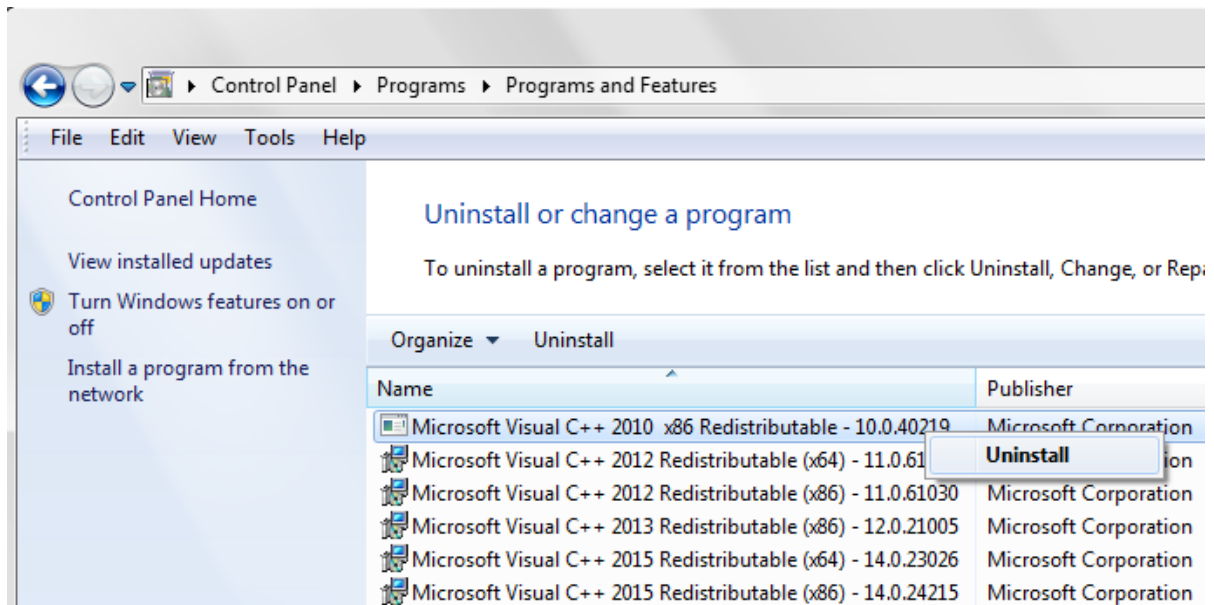

Figure III.1.6: Select Microsoft Visual C++ 2010 x86 Redistributables - 10.0.40219.
- If present, right-click on Microsoft Visual C++ 2010 x86 Redistributables - 10.0.40219 and click on uninstall. See Figure III.1.6.